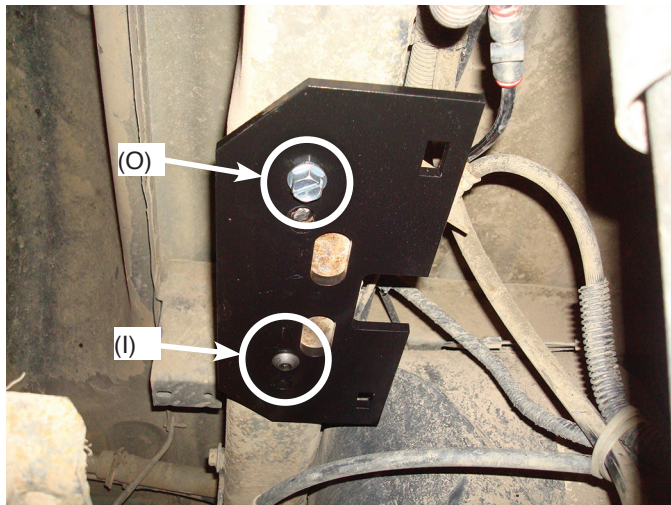

fig. 6
3. Insert and tighten a self-tapping bolt (O) into the hole drilled. Torque the bolt to 15 lb.-ft (fig. 6).
Figure 6 shows the upper bracket installed to the frame using the supplied M10 bolt (I) that was removed and a self-tapping bolt. **Use these only if the existing jounce bumper bolts break!**